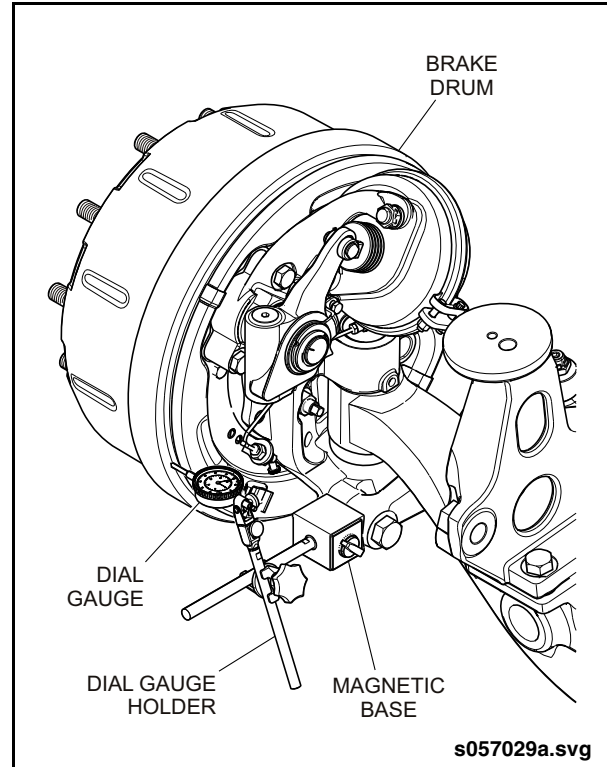

Fig. 2: Wheel Bearing Inspection
1. Attach the base of a magnetic dial gauge to any part of the steering knuckle. See "Fig. 2: Wheel Bearing Inspection" on page 3.